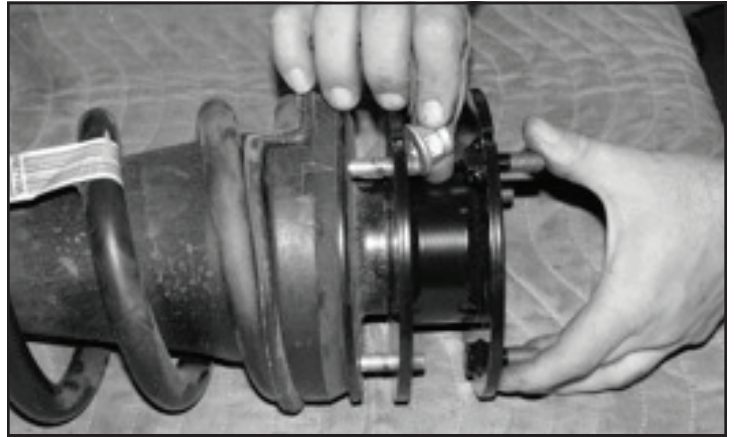

FIGURE 33 - STEP 33
33. Install the FT20560BK coil spacer using the factory nuts and torque to 30 ft-lbs. **SEE FIGURE 33**